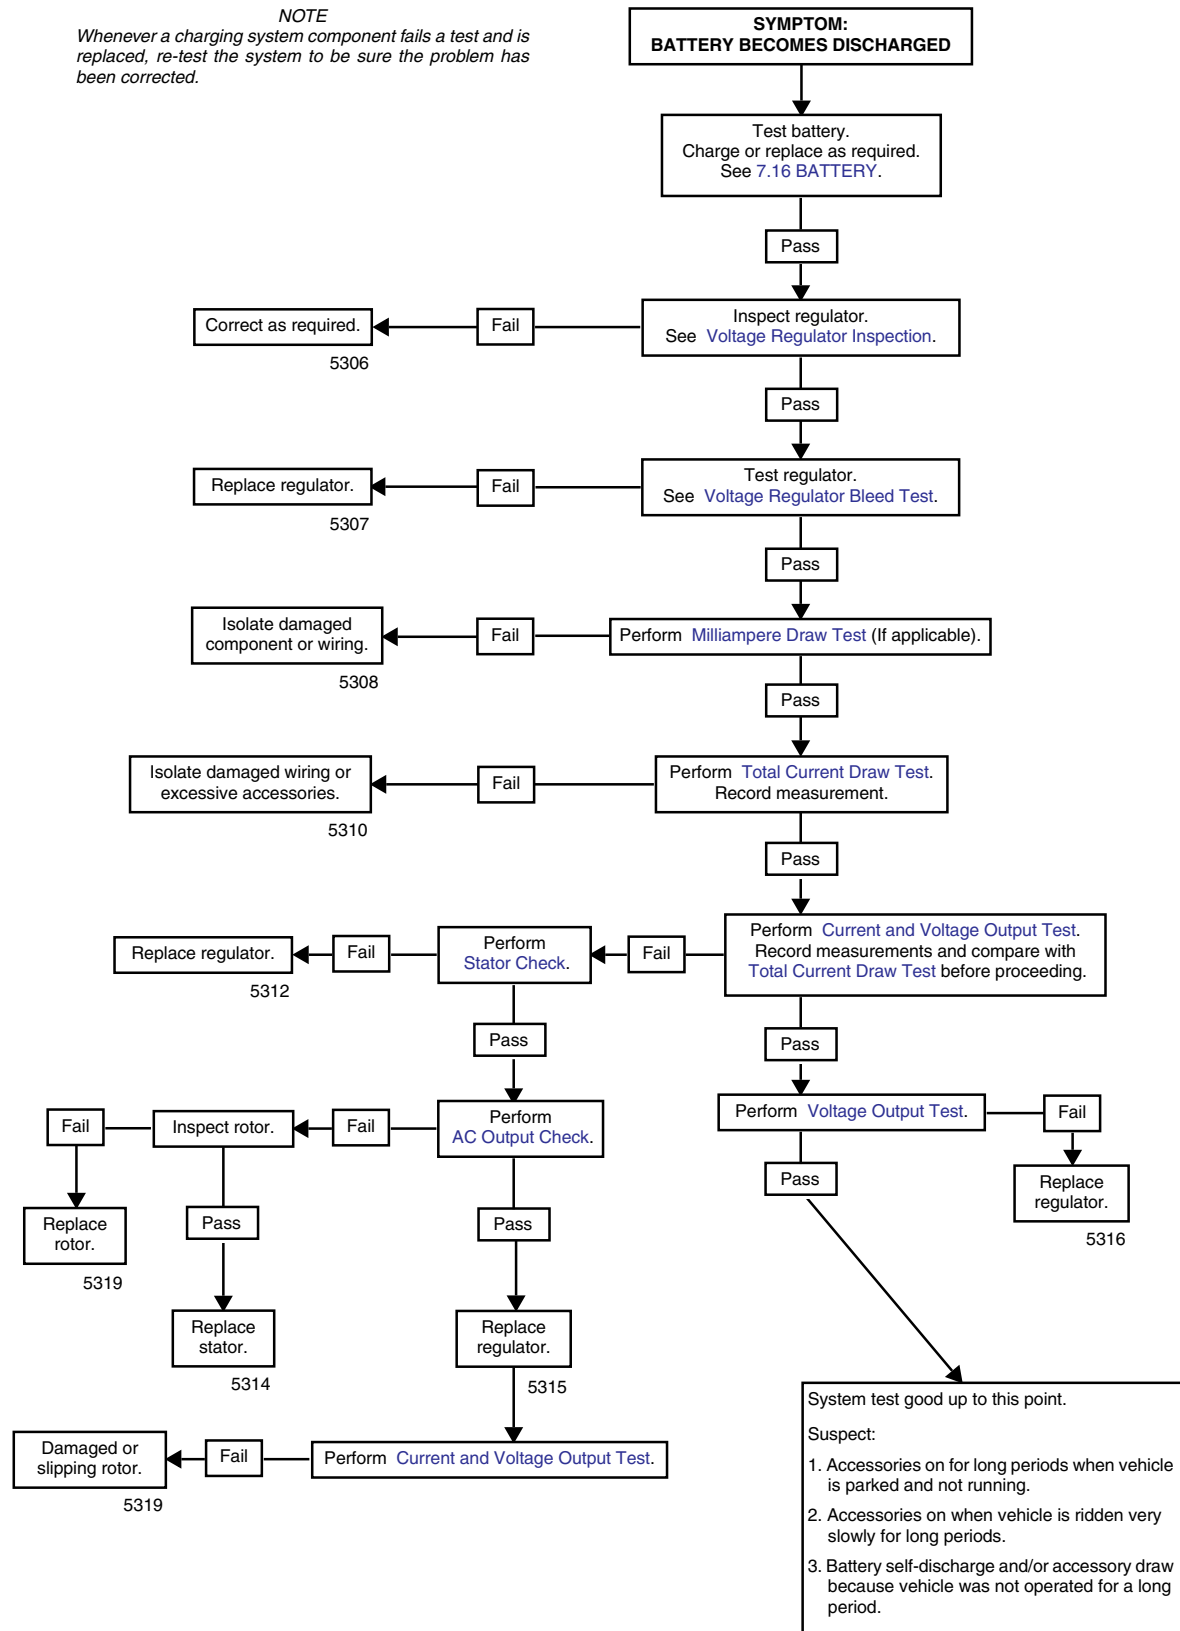

Figure 7-44. Charging System Troubleshooting
- a. See Figure 7-44. If voltage to the battery is not more than 15 VDC, voltage output is within specifications. Investigate other possible problems.